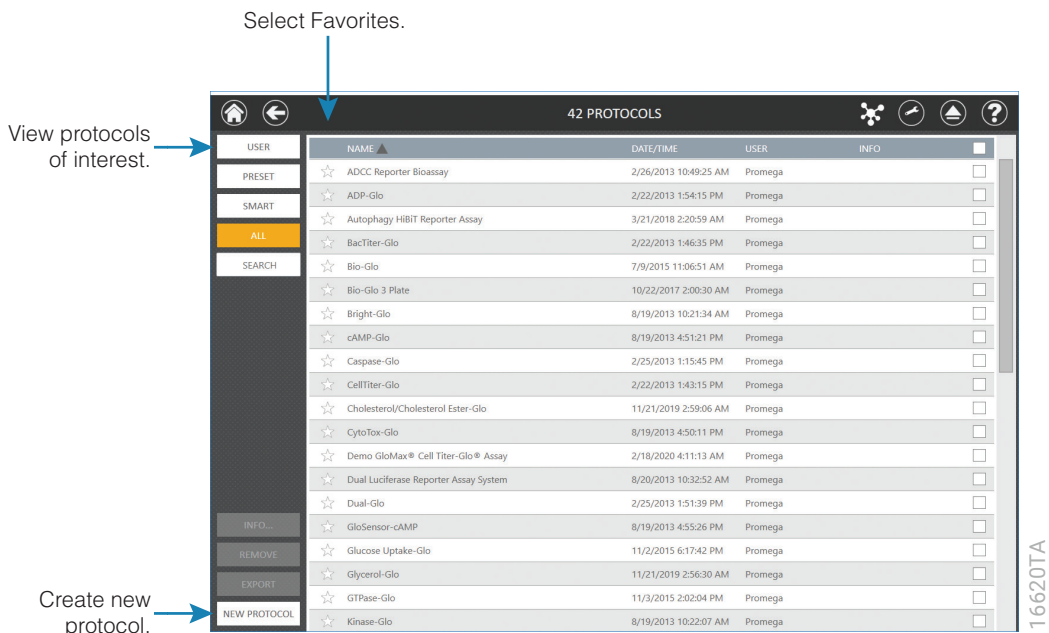

Figure 12. GloMax® Navigator 'Protocol' screen.
1. To create a new protocol, from the 'Protocols' screen, tap the **New Protocol** button at the bottom of the screen (Figure 12). To edit an existing protocol, select a preset or user-defined protocol from the 'Protocols' screen (Home → Protocols).